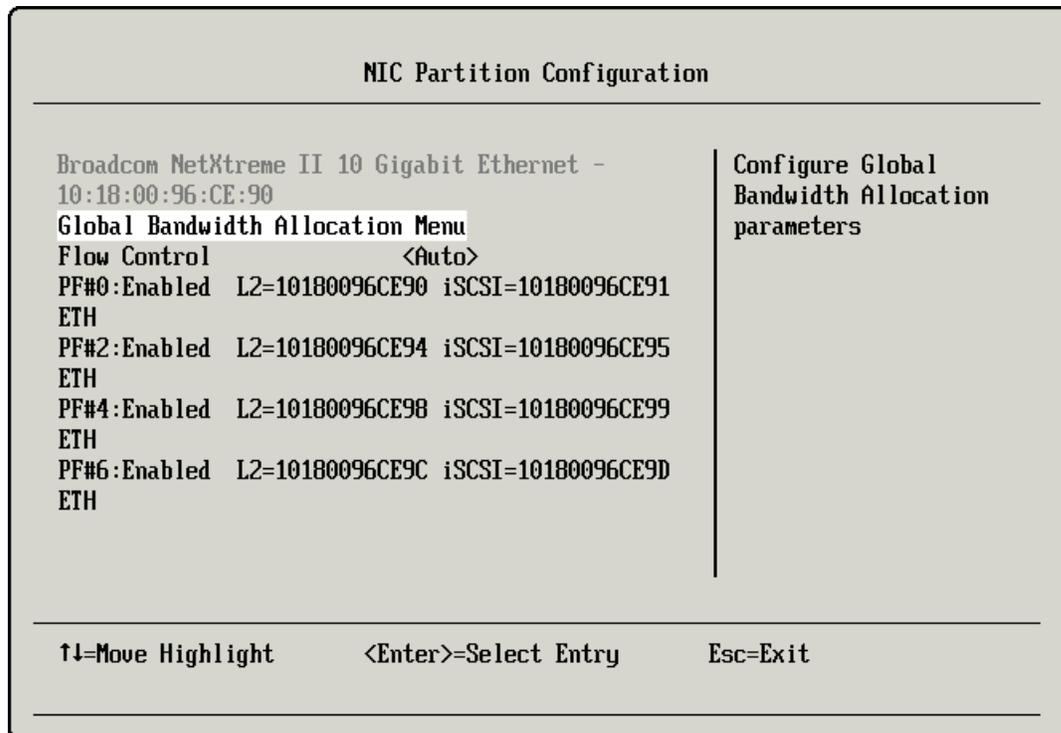

Figure 10-50 NIC Partition Configuration panel
9. In the NIC Partition Configuration panel (Figure 10-50), identify the MAC addresses of all four NIC partitions on this panel: